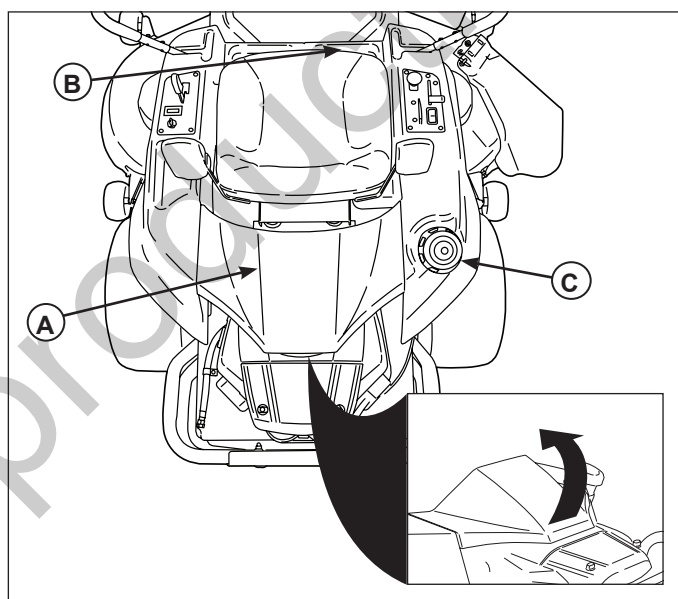

Figure 1. Pre-Start Checks
- Check that the crankcase is filled to full mark on dipstick (**A**, Figure 1 - located under engine cover). See the engine owner's manual for instructions and oil recommendations.